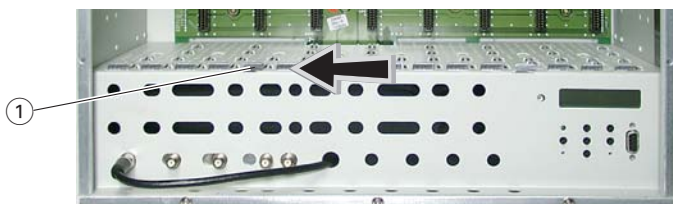

Fig. 1
- Open the locking device ① in the direction of the arrow (fig. 1).